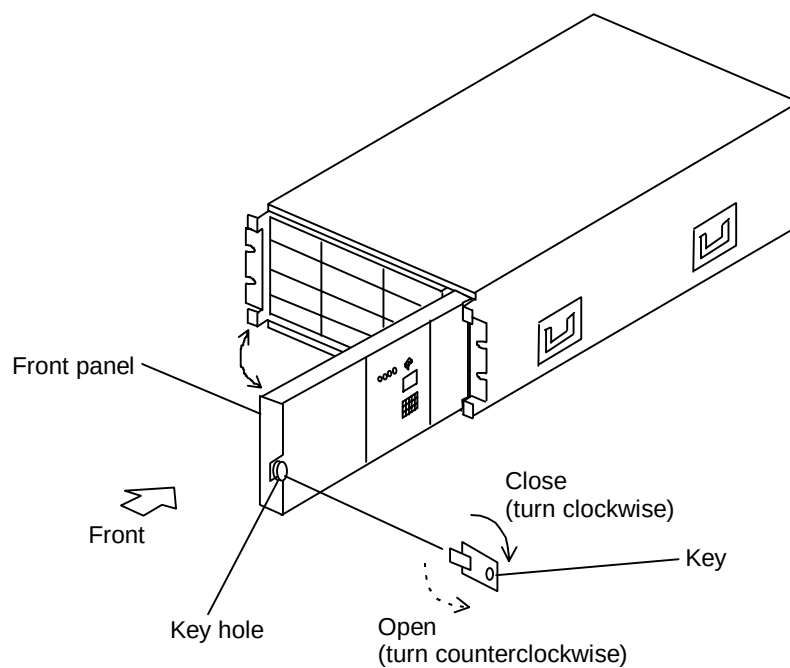

Figure 2.5.2 Opening/Closing the Front Panel
(1) Opening procedure (See Figure 2.5.2.)
- ① Remove the front cover. (See RH-OPTION0120.)
- ② Insert the key, turn it to the arrow direction (···➤) and hold the left of the front panel to open to the right.
(2) Closing procedure (See Figure 2.5.2.)
- ① Close the front panel.
- ② Turn the key to the arrow direction (➡) and secure the front panel.
- ③ Attach the front cover.